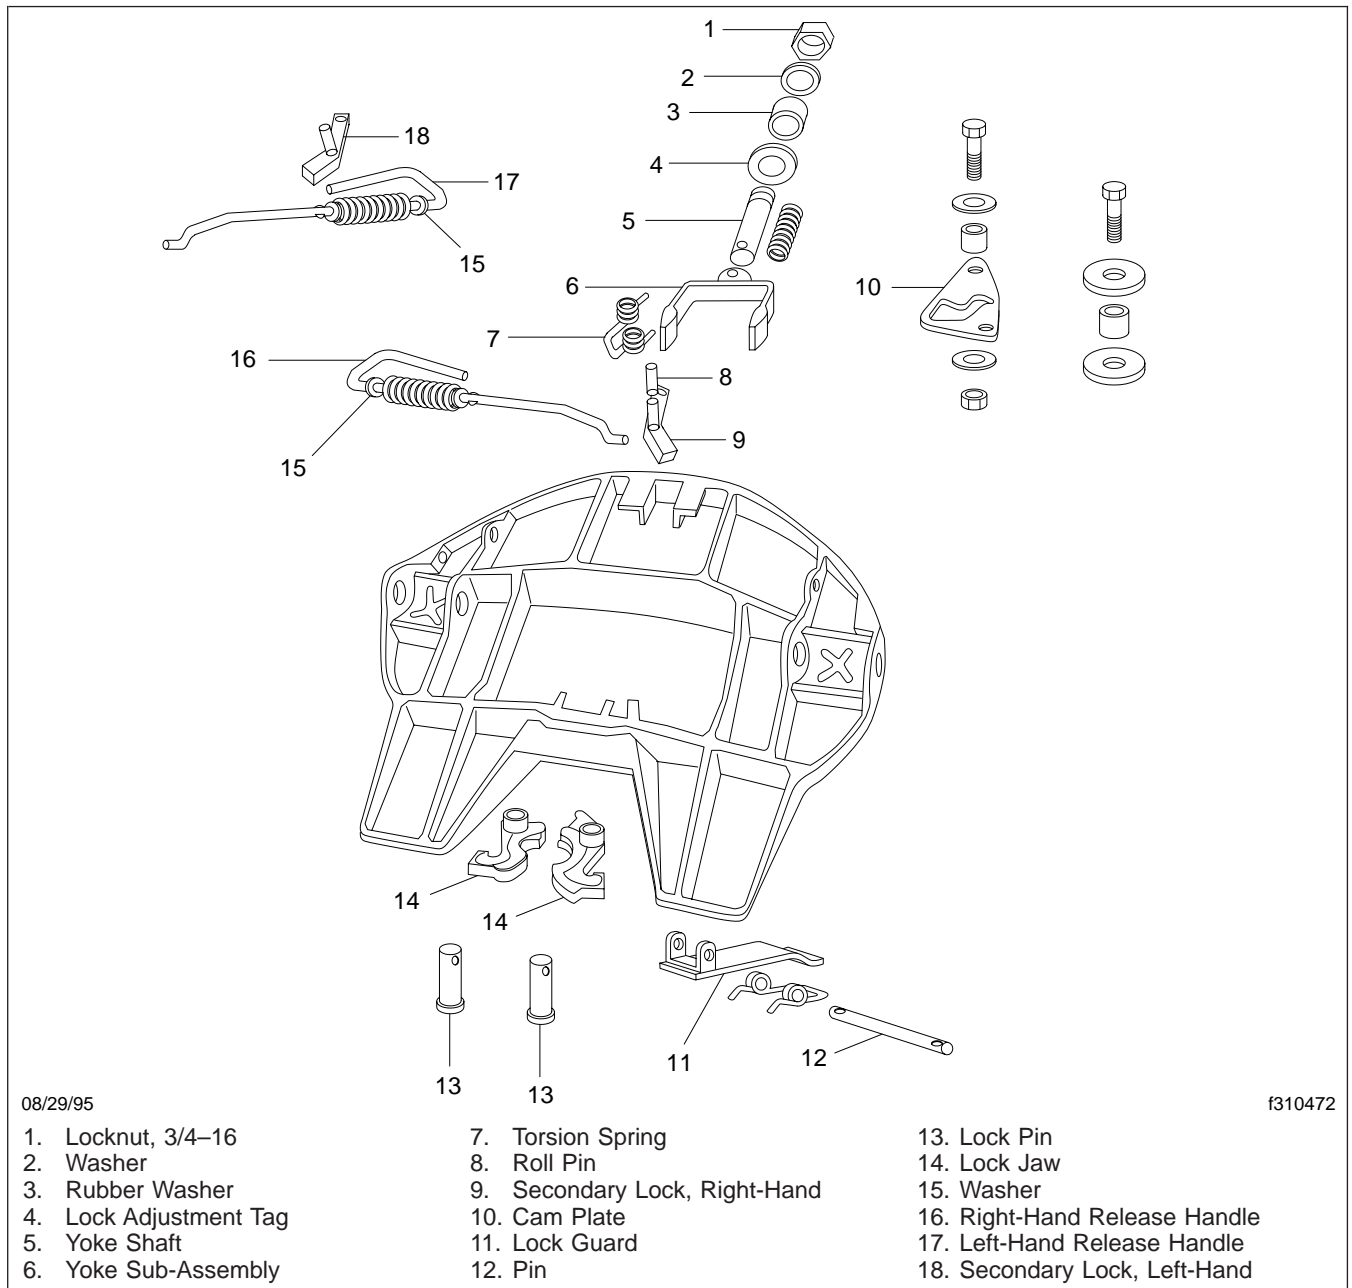

Fig. 2, Holland Fifth Wheel
7. Check the condition of the X-pattern cast into the underside of the fifth wheel top plate. See Fig. 2. The fifth wheel top plate must be removed to check the X-pattern.